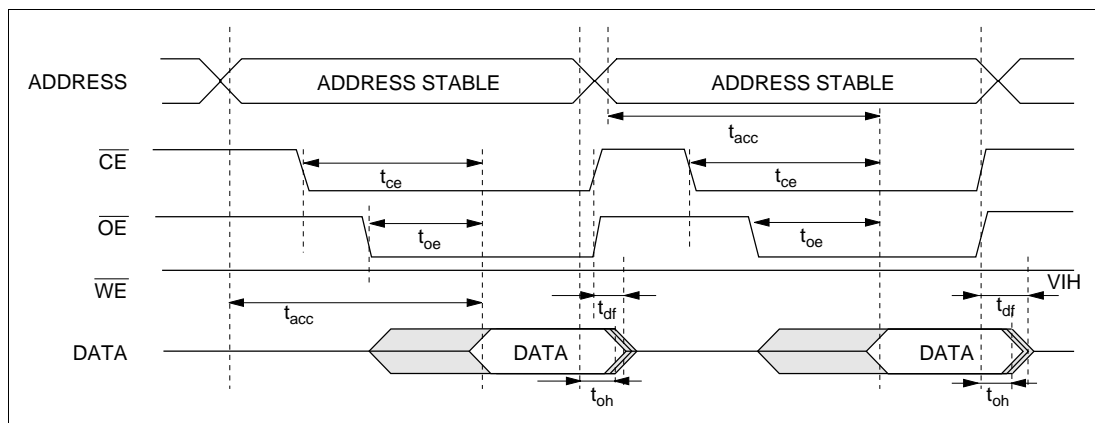

Figure 6.20 Timing Waveforms for $\overline{\text{CE}}$, $\overline{\text{OE}}$ Clocked Read
- (d) Memory address transfer is performed in the second cycle (figure 6.20). Do not perform transfer after the second cycle.
(1) AC Characteristics